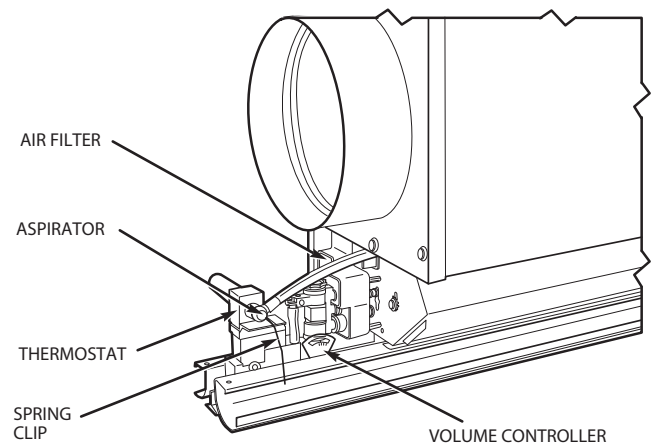

Fig. 39 — 37HS2 and 37HS4 Variable Air Volume Control Installation
- c. Snap spring clip over thermostat and onto the side diffusers to hold thermostat in place. See Fig. 39. Make sure that thermostat lever will rotate.